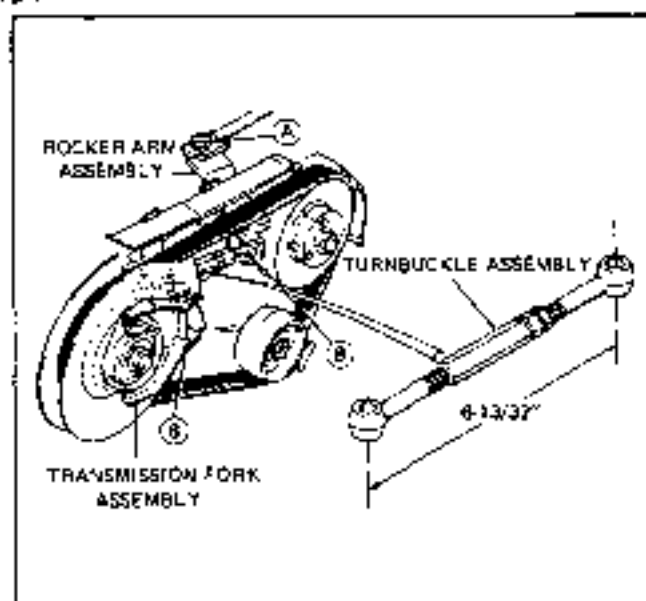

FIGURE 2
6. Rotate the shift ring and cover assemblies until the setscrew over the shaft keyway is aligned with one of the holes in the pulley hub. Loosen setscrew. The other setscrew in the collar need not be loosened at this point as it merely holds the collar in position on the Splicer Assembly. Fig. 2.
- A. Remove the 1/8" nut and bolt from the arm and rocker assembly, reference letter "A", Fig. 2.
- B. Remove the locknuts, reference letter "B", Fig. 2 and lift out bolt and rocker assembly.
placed forward when assembling in the tractor. Assemble both eyebolts with the same length of threads engaged in the turnbuckle. (See Fig. 2.)
IMPORTANT: After tightening the locknuts, reference letter "B", Fig. 2, insure that there is free movement of the fork assemblies.